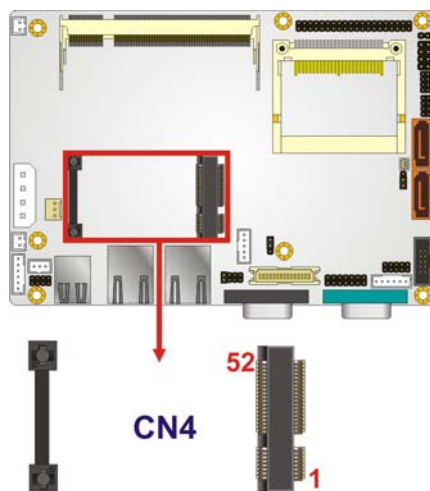

Figure 4-12: PCIe Mini Card Slot Location
- CN Location:** See Figure 4-12